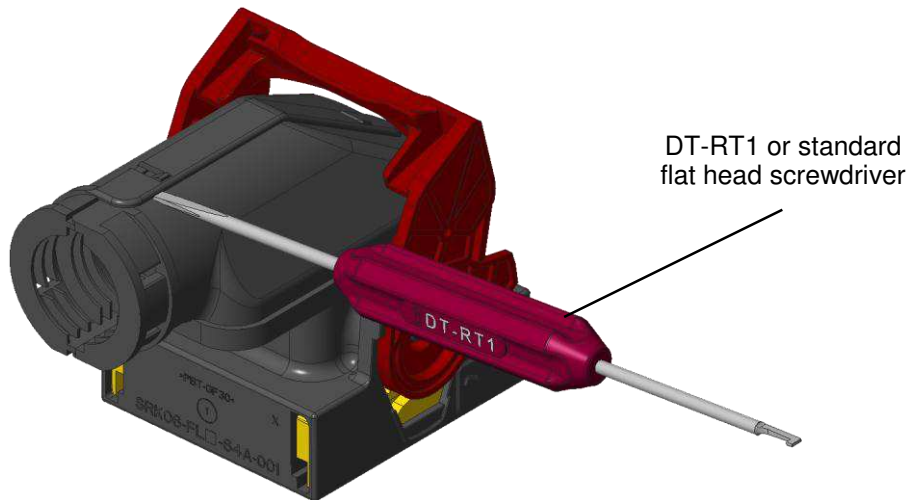

Figure 14
5. To remove the backshell, disengage all three snaps by wedging a DT-RT1 tool or standard flat head screwdriver between the two halves of the backshell and prying it apart as shown in Figure 14.